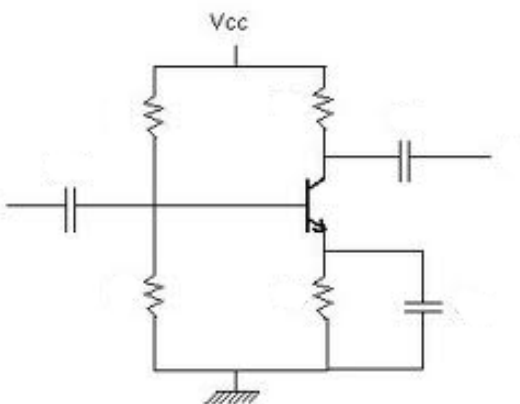

Figure 10: An amplifier based on an NPN BJT.
- Build the amplifier circuit shown in Figure 10, choosing appropriate values for resistors and capacitors, using the same constraints as for the follower circuit above, and choosing a DC gain of 2. For the time being, omit the emitter capacitor.